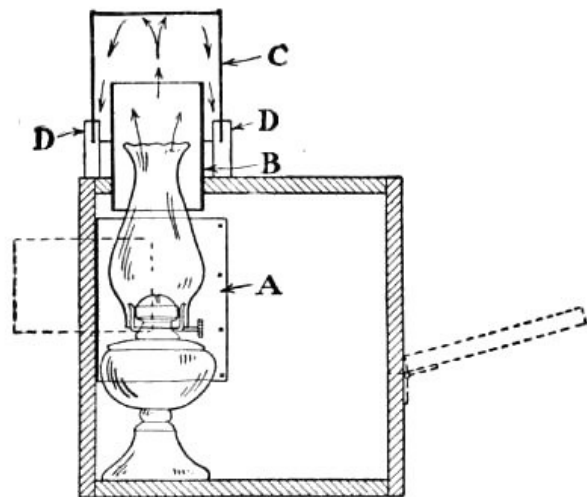

FIG. 342.—Cross-section of Reflectoscope.
If Oil Lamps are Used, their tops will project through the ventilation holes, as shown in Fig. 342. These openings must be inclosed with
A Hood which will Conceal the Light, yet allow the heat to escape. The most satisfactory arrangement is that shown in Figs. 339 and Fig. 342. A baking-powder can with its bottom removed (B) is slipped over the lamp chimney and fitted into the ventilation hole; then a tomato-can (C) is inverted over the top of the can and fastened in the slotted ends of three wooden peg stilts (D, Fig. 340), and the pegs are fitted into holes made in the top of the box (Figs. 339 and 342). Fasten the can in the slots of the stilts with tacks (Fig. 340).